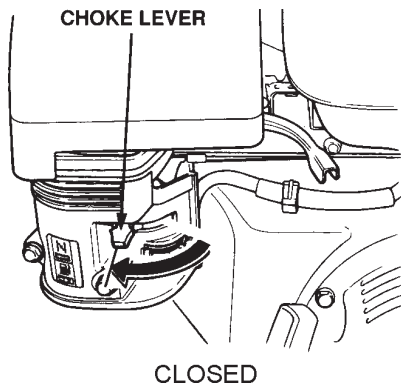

Figure 14. Choke Lever (Closed)
7. If the engine has started, slowly return the choke lever (Figure 14) to the “**CLOSED**” position. If the engine has not started repeat steps 1 through 6.